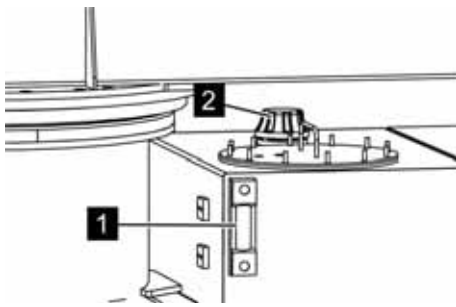

Fig. 139: Unscrewing the lid
6. ➤ If necessary, top up hydraulic oil (Item no. 3917/0066) (↪ Chapter 3 'Technical data' on page 43). Open the padlock of the lid (Fig. 139/1) with the corresponding spanner and remove it (↪ Chapter 4.6.1 'Keys' on page 66).
7. ➤ Unscrew the lid (Fig. 139/2) from the hydraulic oil tank.
8. ➤ Fill up the hydraulic oil up to the maximum marking on the inspection glass (Fig. 139/1).
9. ➤ Screw the lid (Fig. 139/2) back on and secure with the padlock.